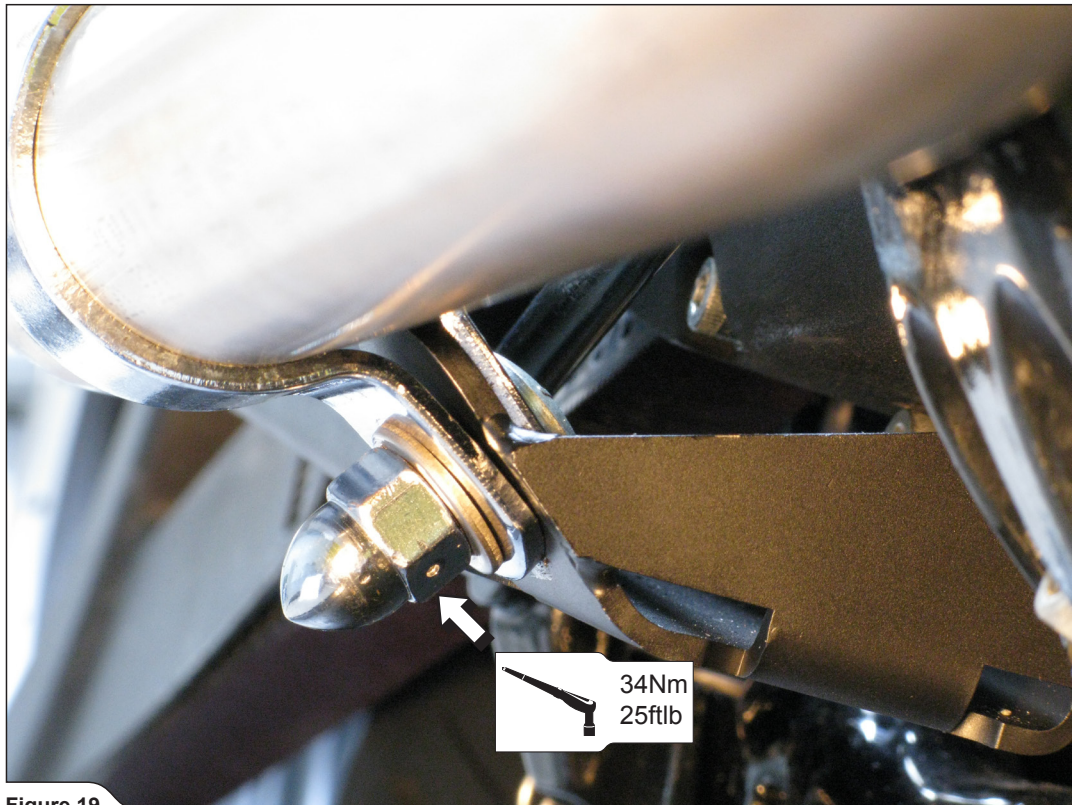

Figure 19
10. Tighten the header's clamp to the specified torque (**Figure 19**).